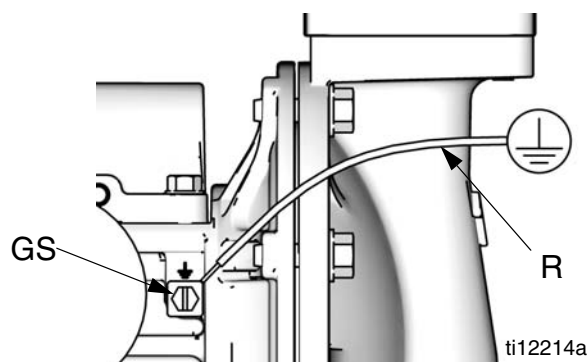

FIG. 1. Grounding screw and wire
Pump: See FIG. 1. Loosen the grounding screw (GS). Insert one end of a 12 ga. minimum ground wire (R) behind the grounding screw and tighten the screw securely. Connect the clamp end of the ground